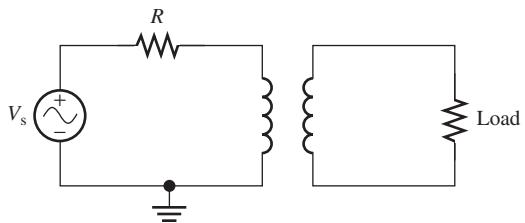

FIGURE P12.34 Circuit for Problems 12.34 and 12.35.
- 12.34** (B) In Figure P12.34, the voltage source is 10 V, 60 Hz, the resistor, R , is 10Ω , and the load has a resistance of 100Ω . Use PSpice to plot the voltage input to the transformer and across the load if N_1 is 100 and N_2 is 400. Assume an ideal-case transformer.
- 12.35** (B) In Figure P12.34, the voltage source is 10 V, 60 Hz, the resistor, R , is 500Ω , and the load has a resistance of 200Ω . Use PSpice to plot the voltage input to the transformer and across the load if N_1 is 600 and N_2 is 200. Assume an ideal-case transformer.